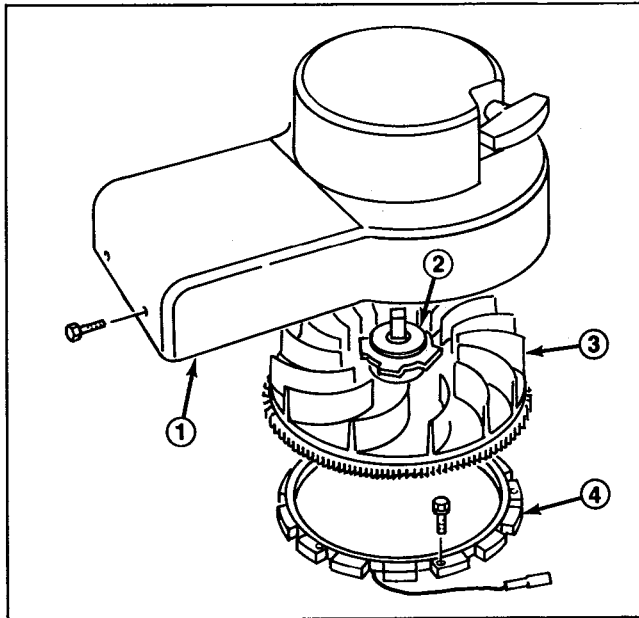

Figure 1
2. Remove blower housing mounting screws (4) and lift off blower housing, recoil assembly and debris guard (Fig. 1).
3. To expose alternator stator, remove rewind starter clutch assembly and flywheel (Fig. 1).
4. Remove screws (4) securing alternator stator to engine. Disconnect stator wire from harness. Note how wire is routed to harness connector (Fig. 1 & 3).